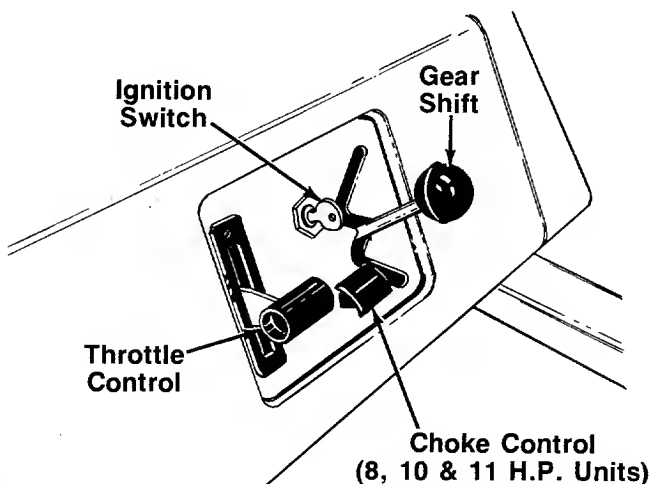

FIGURE 17.
The throttle control is used to regulate the engine speed. On 5 H.P. models, it is also used to choke the engine. The engine should be operated from 3/4 to full throttle when operating the cutting deck. See figure 17.
The choke control is located on the console and is operated manually. Details for the choke operation are covered in the separate engine manual packed with your unit. See figure 17.
Electric Start Model—The key must be turned to the START position to start the engine. After the engine is running, let the key return to the ON position. Turn the key to the OFF position to stop the engine. Remove the key when the rider is not in use. See figure 17.
The shift lever is located on the left hand side of the console and has three positions, FORWARD, NEUTRAL and REVERSE. See figure 17. The clutch-brake pedal must be depressed and the riding mower must not be moving when shifting gears. Do not force the shift lever. Release the clutch-brake pedal slightly to line up the shifting collar in the transmission. Then try to shift gears.
b. **Electric Start Units:** Turn the ignition key to the **START** position. As soon as the engine starts, let the key return to the **ON** position. See figure 17.